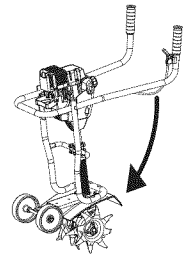

Fig. 19
3. Fold the handlebars down as shown (Fig. 19). Tighten the knobs.
4. Either carry the unit by the shaft tube grip or grasp the center of the handlebar to use it as a carrying handle (Fig. (20)).